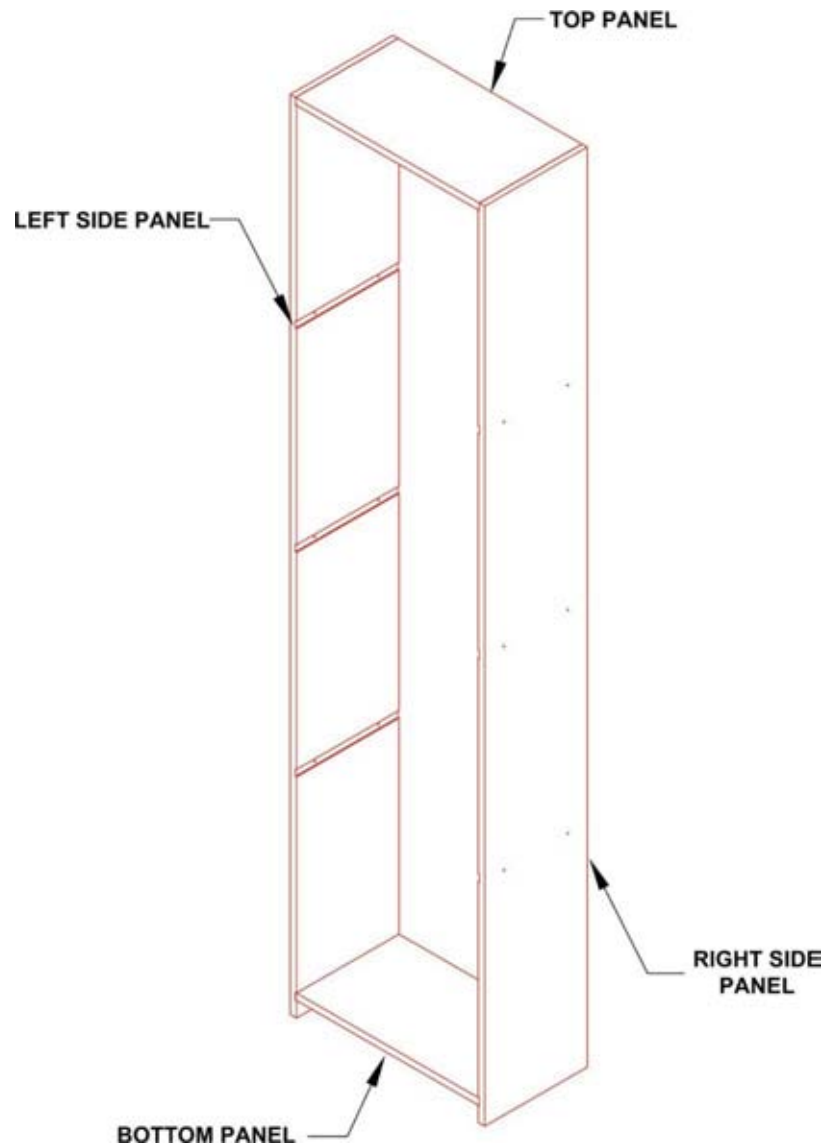

Figure 3
4. Your outer frame should be assembled and ready to stand upright. Your diamond cube should resemble **Figure 3**.